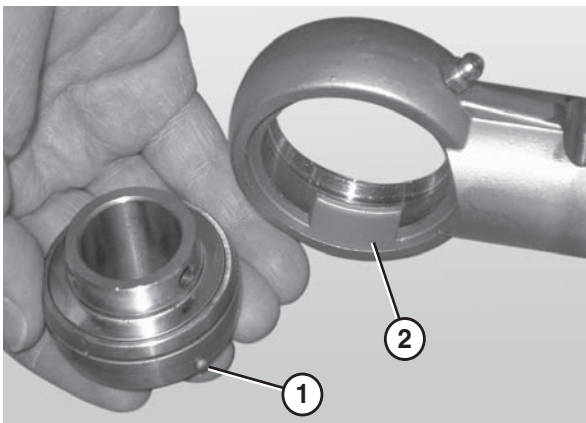

Figure 86
4. Remove the worn or damaged bearing (**Figure 86**).
When inserting the new bearing, make sure the anti-rotation notch (Figure 86, item 1) on the bearing lines up with the groove inside the housing (Figure 86, item 2).